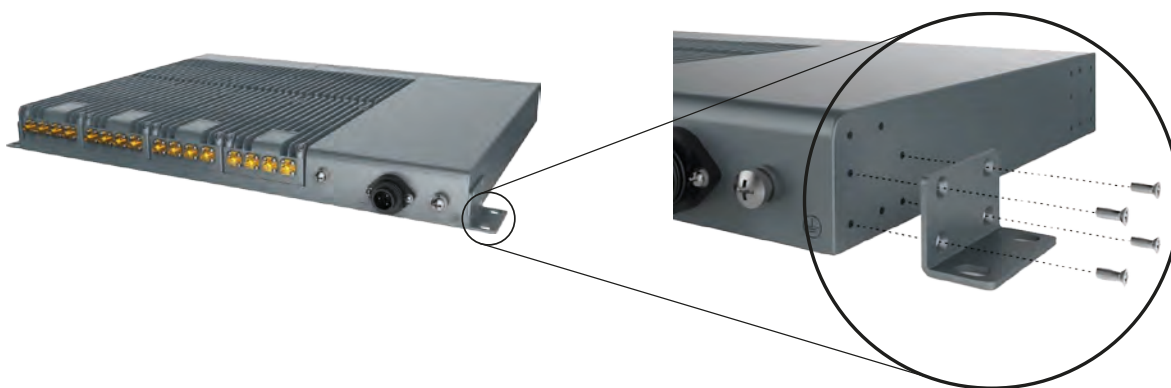

Fig. 14: Attaching a 19" mounting bracket
- ▶ Attach the 19" mounting brackets to the C-hub rear, using 4 screws M3×16 per bracket and the Phillips screwdriver. Observe the orientation of the brackets shown in Fig. 14.